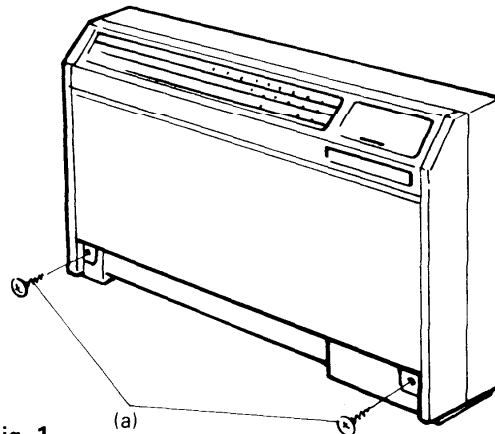

Fig. 1
- 1) Remove the two installation screws (a) of the front panel of the indoor unit with a Phillips screwdriver. Fig. 1